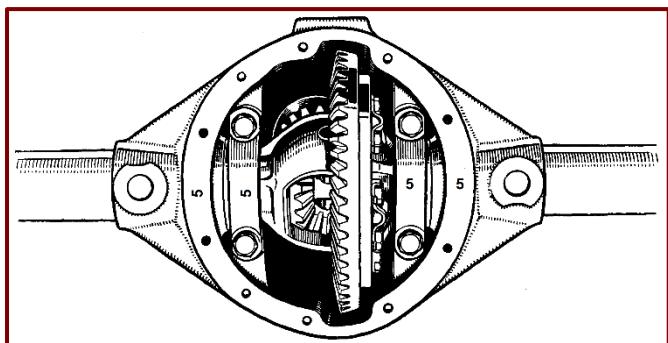

Figure 55. Correct Fitting of Bearing Caps.
9. When refitting the bearing caps, be sure that the positions of the numerals marked on the gear carrier housing face and the caps correspond, as indicated in *Figure 55*. Tighten the caps lightly, remove the stretching fixture if used, then finally tighten the bolts securing the bearing caps.